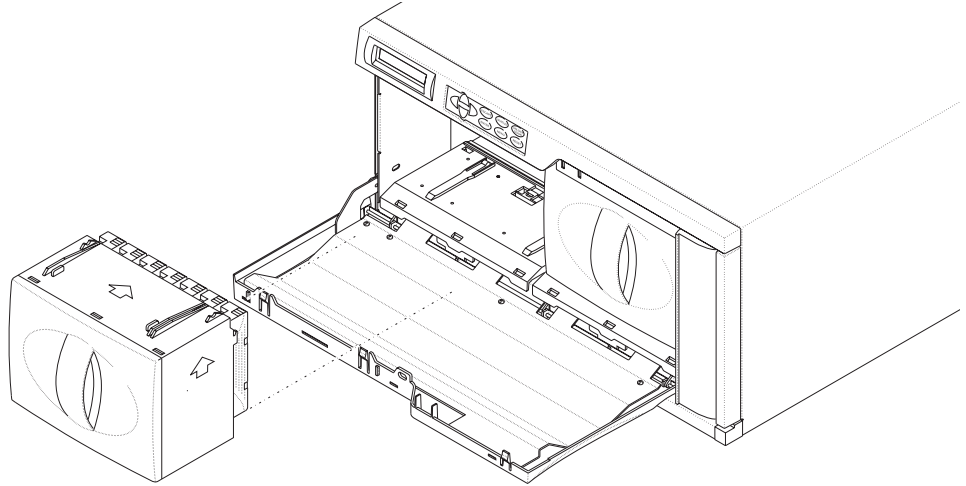

Figure 2-4 Removing a magazine
2. Remove each magazine by grasping the handle and pulling straight out, as shown in Figure 2-4.